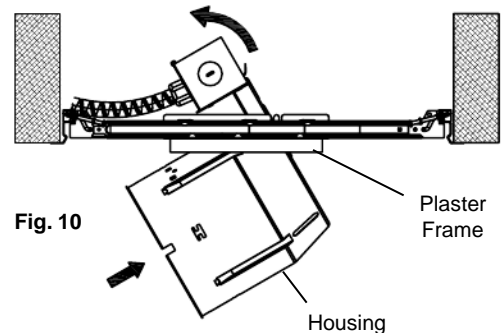
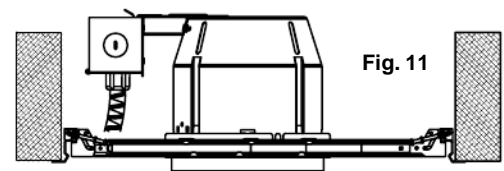

Fig. 10
Fig. 11
- Slide the housing through the hole opening, as shown. (Fig. 10 & Fig. 11)